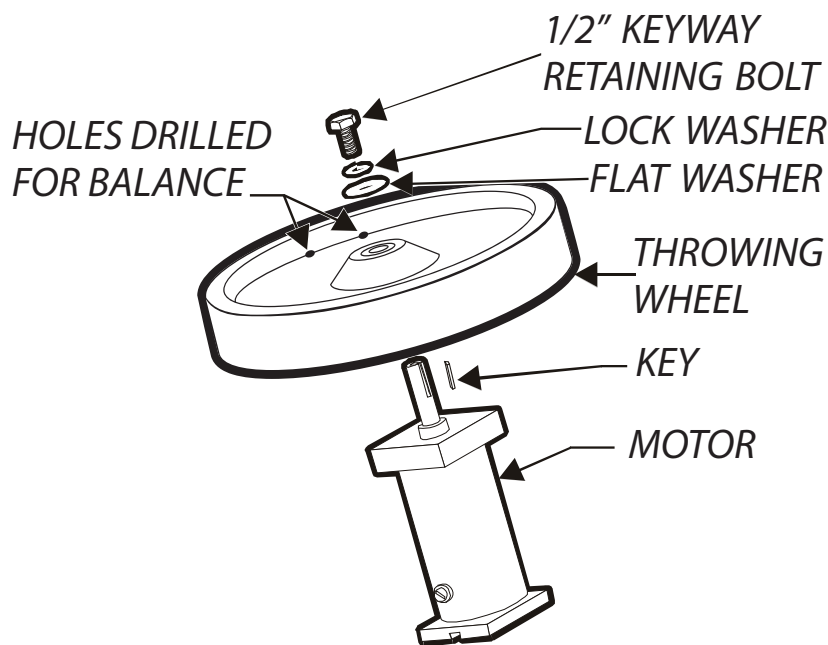

Figure 10 Hold wheel while loosening the bolts.
2. Hold the wheel so that it cannot move. Turn the keyway retaining bolt counter-clockwise using a box end wrench (See Figure 10).